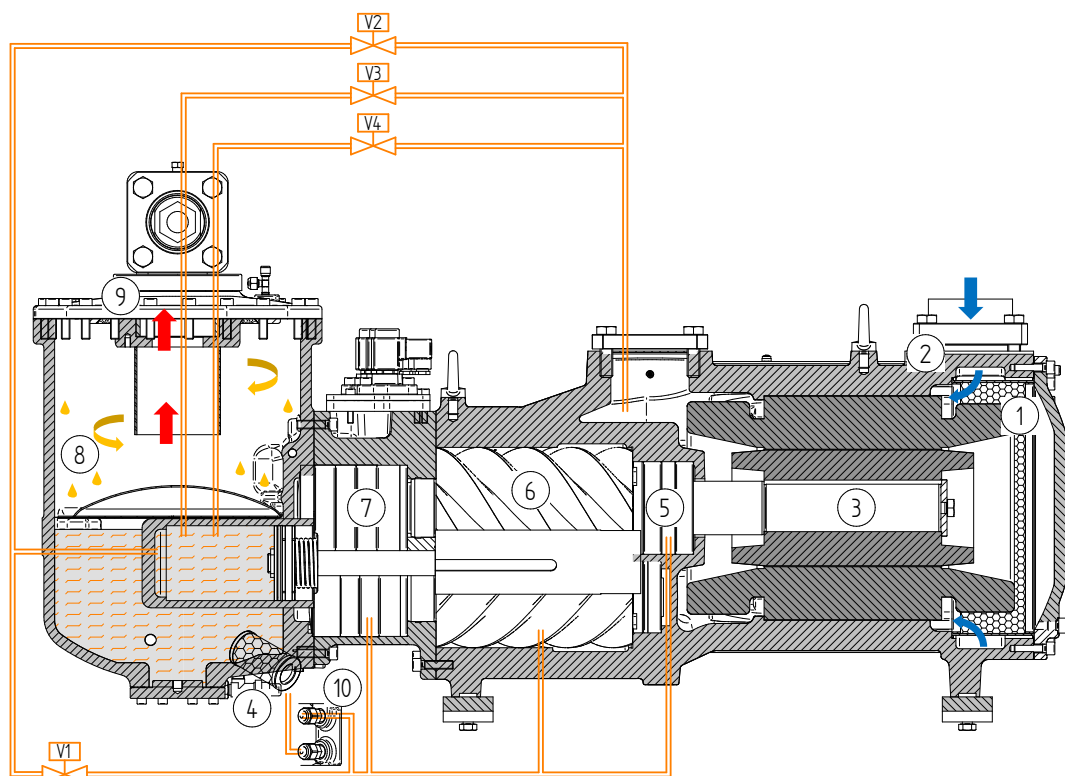

Fig. 8: diagram of the internal oil circuit for lubrication and operation of the slide valve;
The high-pressure oil-gas mixture undergoes to a separation process, part (8) in Fig. 8 (see paragraph 3.4 'Oil separation'); then the oil is collected at the bottom of the oil separator while the gas leaves the compressor through the discharge shut-off valve located on top of the oil separator.